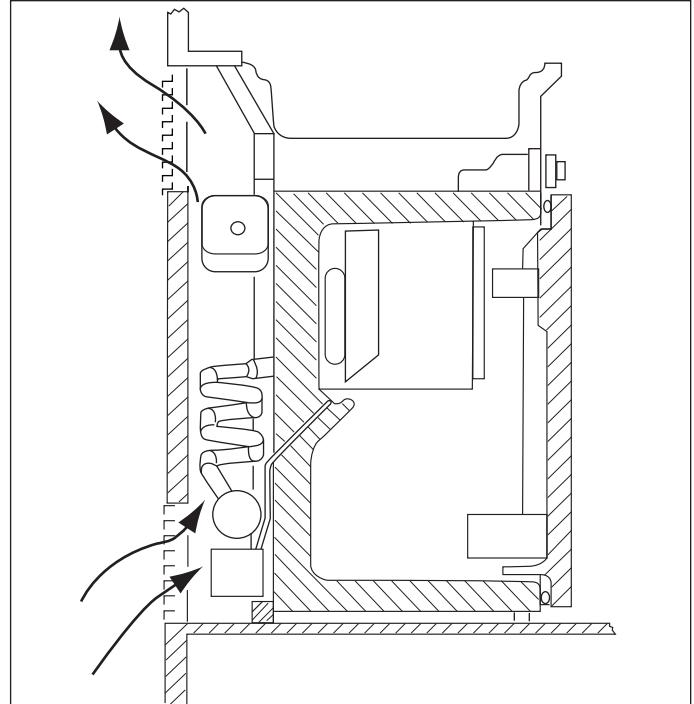

Figure 5-1.
1. Is the upper ventilation grille positioned above the condenser? (See Figure 5-1)